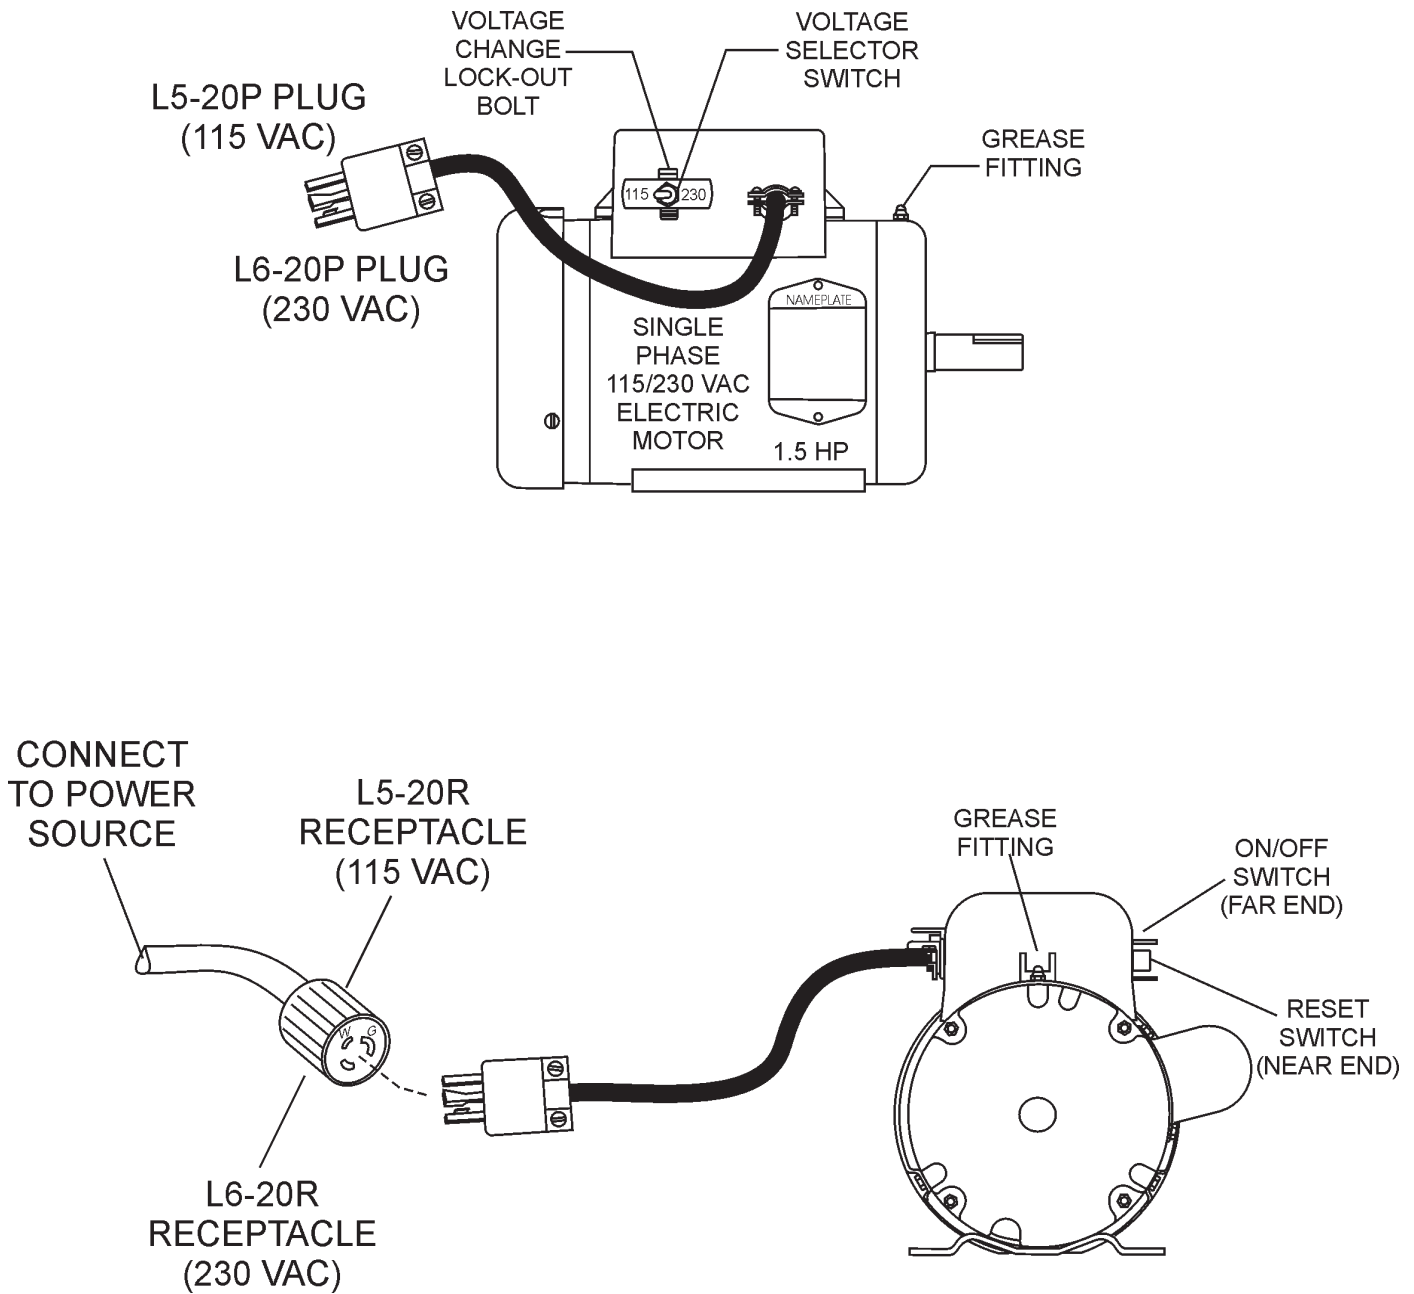

Figure 3. Single Phase Electric Motor with 18 inch Pigtail Cable
2. Remove the voltage lock-out bolt (Figure 3). Change the position of the **voltage change toggle switch** from 115 VAC to 230 VAC. The mixer is factory wired for 115 VAC operation.